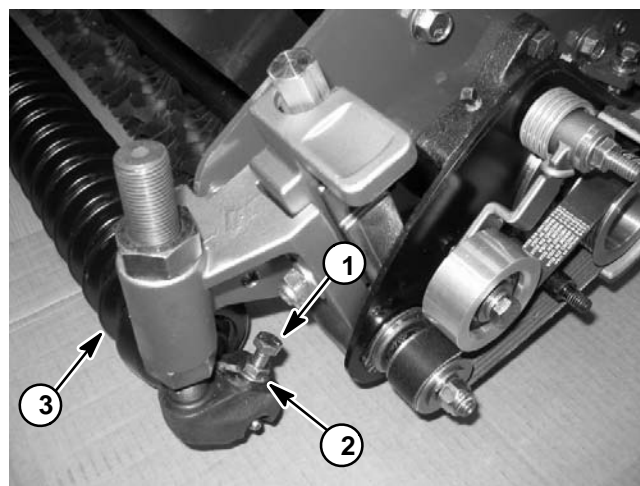

Figure 5
2. Remove groomer belt cover (item 13) and groomer drive belt (item 14) from groomer drive (see Groomer Belt Replacement in this section).
3. Loosen flange nuts (item 23) and cap screws (item 22) that secure front roller shaft to roller support rods (Fig. 5). Remove front roller from cutting unit.